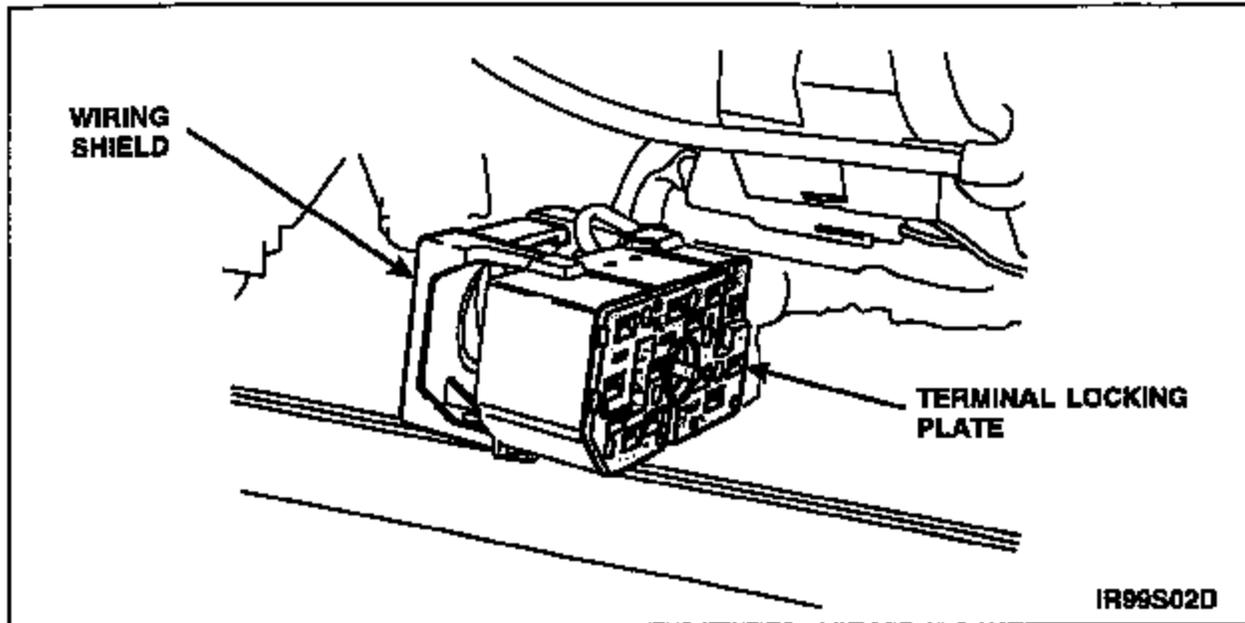

FIGURE 4
6. Remove ignition switch electrical connector wiring shield and terminal locking plate. See Figure 4.